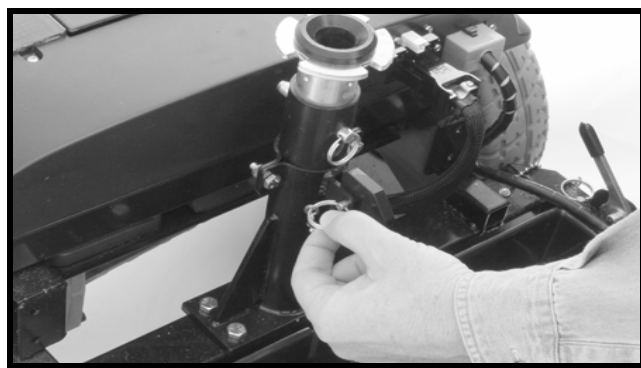

Figure 25. Frame Handle Ball Detent Pin
9. Remove the frame handle ball detent pin. See figure 25.